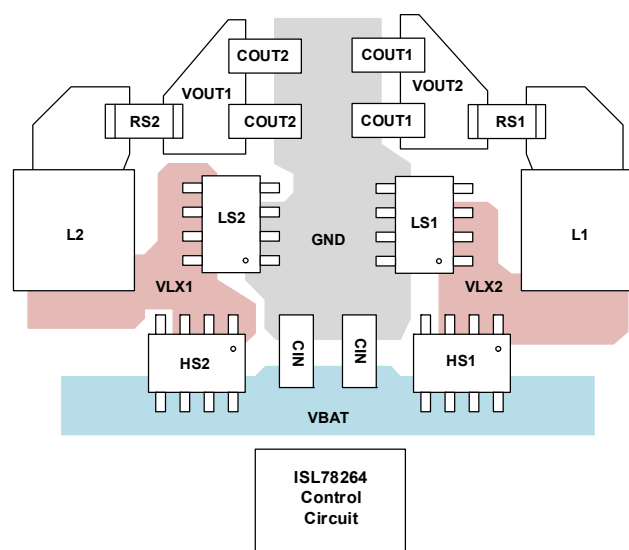

Figure 31. PCB Layout Illustrating Power Component Placement
The following layout instructions see Figures 31 and 32 as noted.
1. In Figure 31 the common connection between input capacitors, output capacitors, and low-side FET for each buck converter should be connected through the central ground (gray) area.